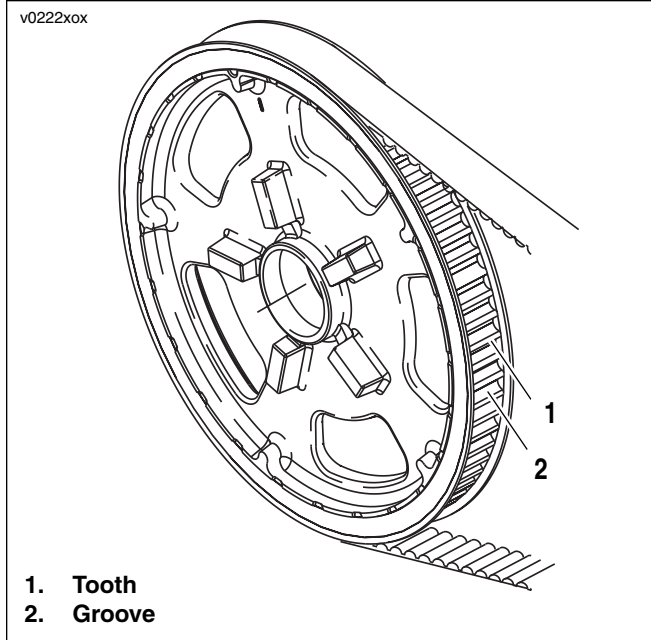

Figure 1-46. Rear Sprocket (typical)
1. See Figure 1-46. Inspect each tooth (1) of rear sprocket for:
2. To check if chrome plating has worn off, drag a scribe or sharp knife point across the bottom of a groove (2) (between two teeth) with medium pressure.